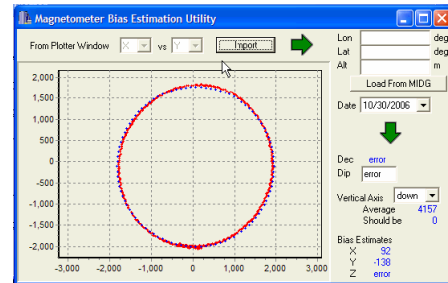

Figure 8. Magnetometer data imported
8. **Press the "Import" button to import the "Plot" data.** The imported data should look similar to Figure 8. The red represents the actual plot and the blue dots represent the estimated magnetic planar curve; however, the utility has not consider the "z" axis.